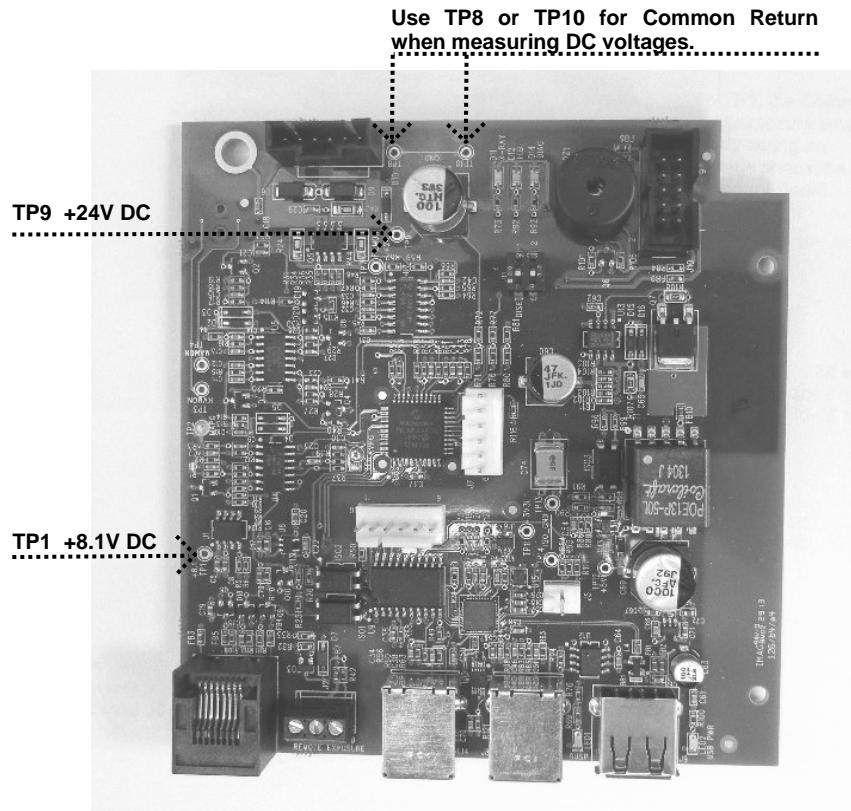
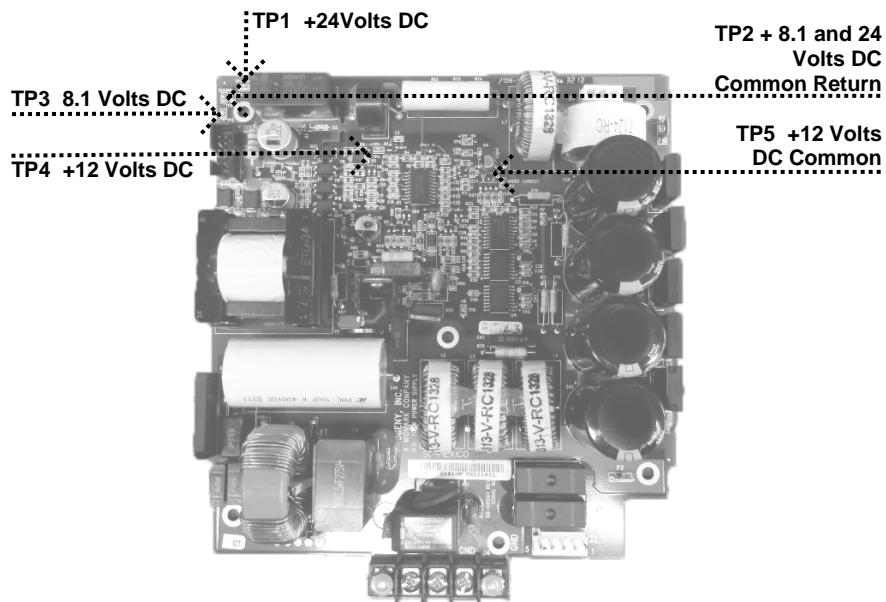

Figure 57
Figure 58
2. On the Power Supply Board, *Figure 58*, use TP2 as a common test point to check TP1 +24 volts DC and TP3 8.1 volts DC. Then, use TP5 as the common return to check TP4 for the presence of +12 volts DC, as shown in *Figure 57*. Should any of these voltages not be present, replace the Power Supply Board.